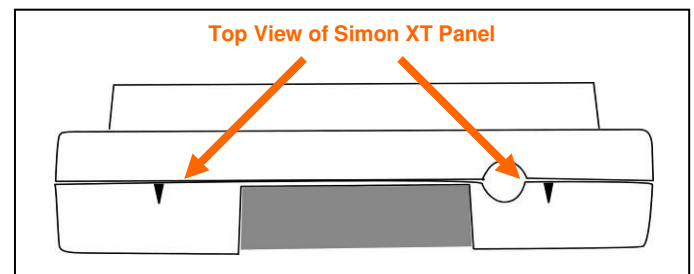

Figure 1
1. Open the panel. This can be done by pressing the two triangle-shaped tabs (*Figure 1*) on the top of the panel.